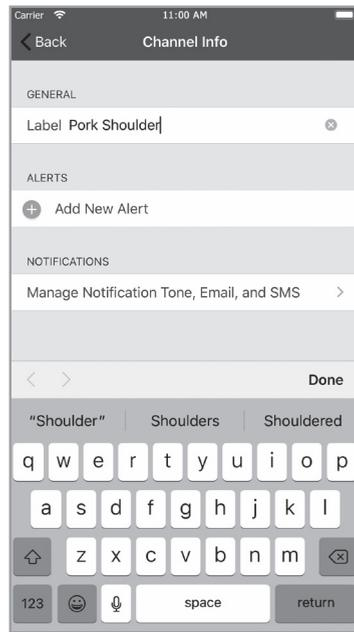

FIG 32
- The names of the two probe ports can be set according to what you're cooking. Tapping on the probe port in the grey banner will allow you to change its name (FIG 32). This name will also be used in the various charts throughout the app.
- An alert – in the form of an app alert, an SMS text message, or an email – can be set to let you know when one of the meat probes are at a certain temp. Simply tap on the temperature shown for the probe in the gray banner, tapping "Add New Alert," then "Set-up Alert" and set up your parameters (FIG 32, 33).